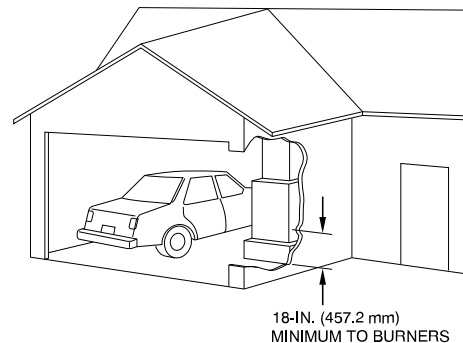

Fig. 6 – Installation in a Garage
8. A gas-fired furnace for installation in a residential garage must be installed as specified in the warning box in the "Location" section, see Fig. 6.
When the furnace is installed in a residential garage, the burners and ignition sources must be located at least 18 inches above the floor, see Fig. 6. The furnace must be located or protected to avoid damage by vehicles. When the furnace is installed in a public garage, airplane hangar, or other building having a hazardous atmosphere, the furnace must be installed in accordance with the NFGC.